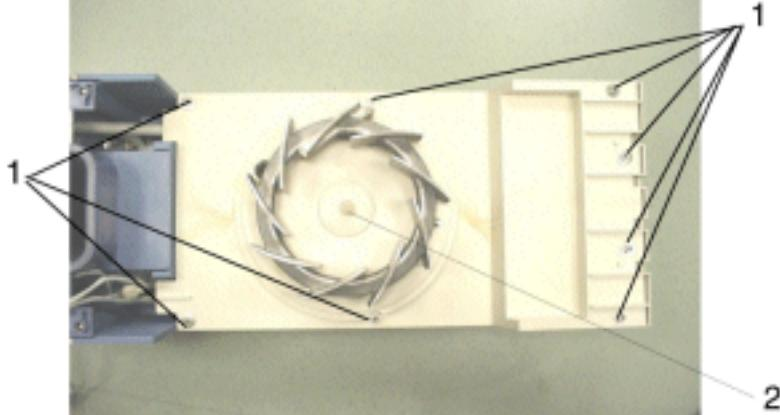

Fig. 189 Front view of the air heater
18. Secure air heater to aggregate housing using screws and washers (1) (Note: The tightening torque of the screws is 3.5 +0.5 Nm), see Fig. 189.
19. Fit rubber sleeve (2) onto shaft of fan motor, see Fig. 189.